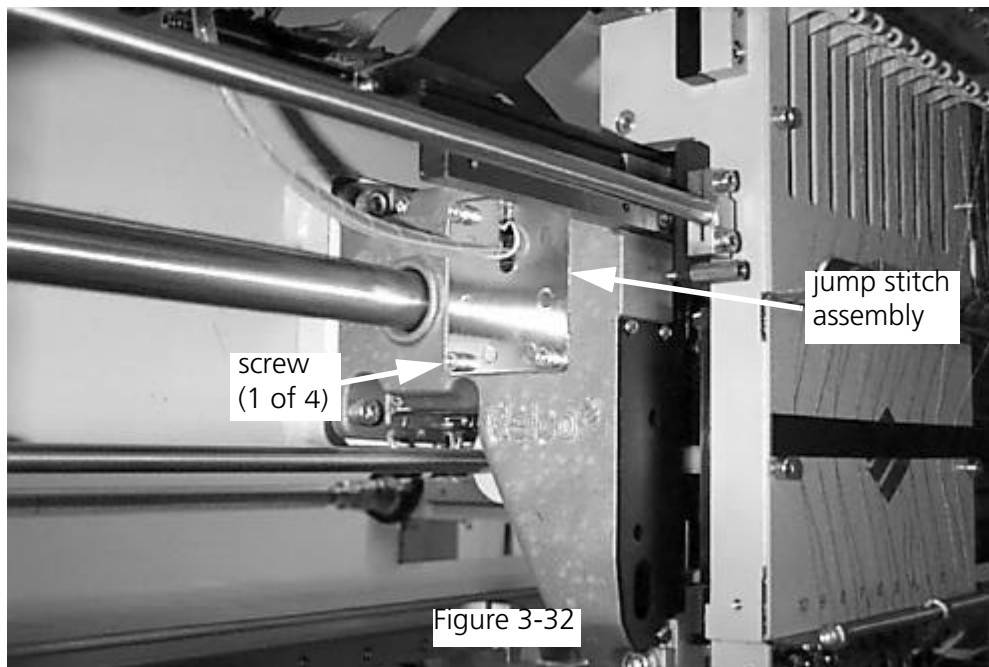

Figure 3-32
2. Remove the four screws holding the jump stitch assembly into the left side of the head (see Figure 3-32).